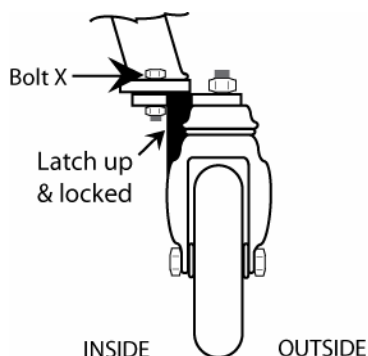

Figure 5: Locked Swivel Wheel
5. If you have swivel front wheels, the plates are parallel with the ground and protrude from the walker as shown in Figure 5.
Refer to figure 5 and adjust the alignment of the swivel wheels as follows: